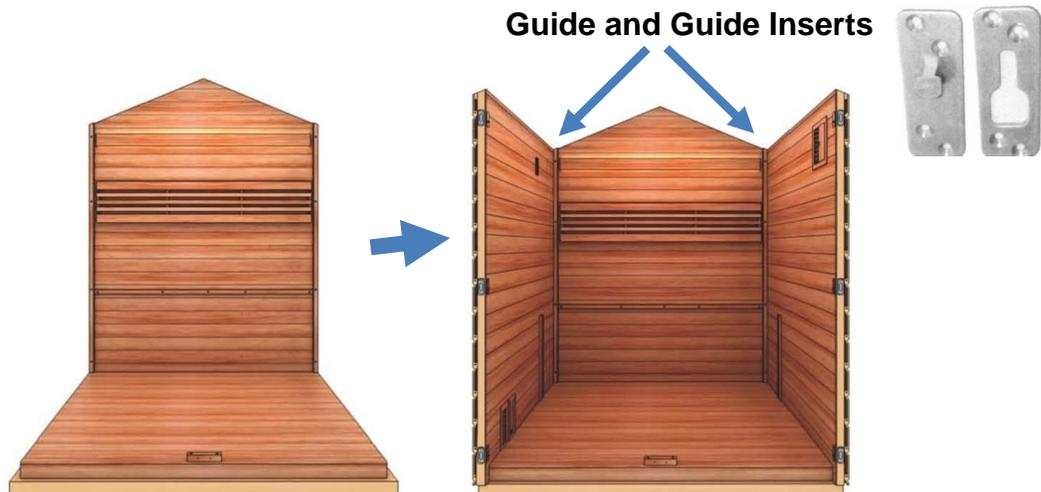

Figure 2
1. For GDI-8503-01, two adults can place the LEFT SIDE WALL PANEL up and onto the lower of the two edges on the FLOOR PANEL. For GDI-8506-01, two - four adults will be needed to lift the LEFT SIDE WALL PANEL up and onto the lower of the two edges on the FLOOR PANEL. For both models, the LEFT SIDE WALL PANEL will need to be flush at the top before screwing it to the REAR WALL PANEL from the interior of the sauna room. Use the provided screws to screw the REAR WALL PANEL to the LEFT SIDE WALL PANEL. Do not overtighten the screws. Although the two wall panels connected together should prevent them from falling, one adult should hold them as a precaution. Next, two adults for GDI-8503-01 and two - four adults for GDI-8506-01 will need to place the RIGHT SIDE WALL PANEL up and onto the lower of the two edges on the FLOOR PANEL. In addition, make sure that the RIGHT SIDE WALL PANEL is flush at the top before screwing it to the REAR WALL PANEL from the interior of the sauna room. Use the provided screws to screw the REAR WALL PANEL to the RIGHT SIDE WALL PANEL. Do not overtighten the screws. (see Figure 2)